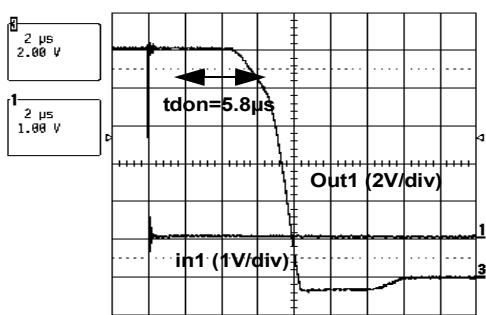

Figure 22. Output ON Delay
- In case of negative voltage at OUT2 (respectively OUT1) this maximum pull down current at DI2 (respectively COD) Pin can be exceeded. This happens during recirculation when the current is flowing in the low side. See Figure 22.